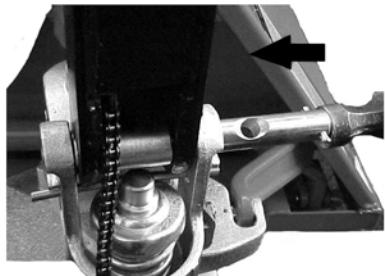

Fig. 6 Axle assembling
- a) Insert the tiller arm (1) into the pump piston, then use a hammer to insert the axle with hole into the hydraulic pump and tiller arm (Fig. 6).